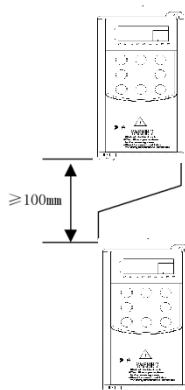

Figure 3-1 DSI-200 installation diagram
- 1) Please install the inverter vertically, so that the heat can be distributed upwards. But cannot be inverted. If the cabinet has more frequency converter, it is best to install side by side. Please refer to Figure 3-1 for the installation of the insulation baffle.
- 2) Installation space Follow the example shown in Figure 3-1 to ensure the cooling space of the inverter. However, please consider the layout of the cabinet when the heat dissipation of other devices.